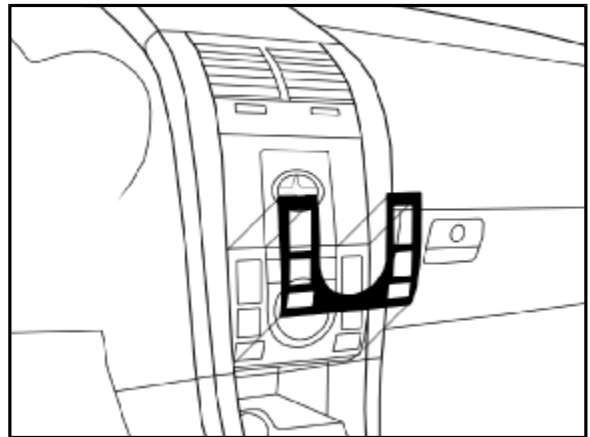

Fig. K1
- ⚠ B. Align part uniformly to edge of factory components. Edge of appliqué should be flush to edge of factory component, ±1.0mm. (Fig. K1).